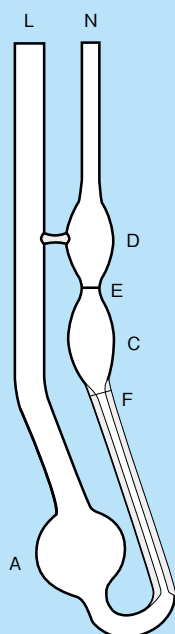

Fig. 1
- (2) Quickly restore the viscometer to the orientation in Fig. 1. Wipe the sample off the outside of tube N. The sample will flow out and collect in sample reservoir bulb A.
- (3) Place the viscometer in the constant-temperature bath. At this point, position the viscometer so that the centers of sample reservoir bulb A, timing bulb C, and upper sample bulb D are aligned on the same straight line, and leave it to settle until the sample reaches the prescribed temperature.
- (4) Apply pressure through tube L or apply suction through tube N until the upper level of the fluid sample is approximately 5 mm above E.
- (5) Allow the sample to flow down naturally. Read out the outflow time from E to F in increments of 0.1 seconds. If the outflow time is less than 200 seconds (less than 250 seconds for viscometer No. 25) or more than 1000 seconds, choose another viscometer and repeat the procedure from step (1).